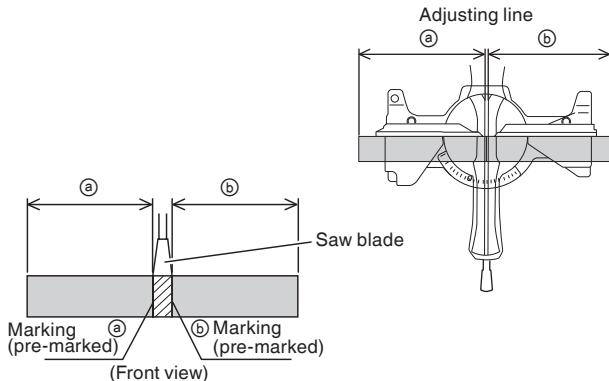

Fig. 24
(1) As shown in Fig. 24 the width of the saw blade is the width of the cut. Therefore, slide the workpiece to the right (viewed from the operator's position) when length (b) is desired, or to the left when length (a) is desired.